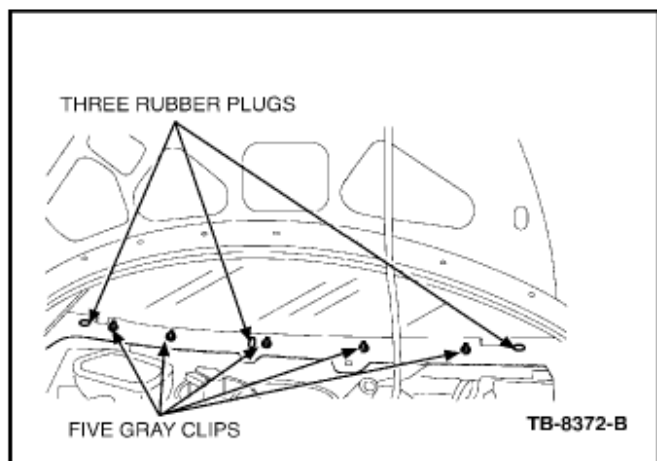

Figure 10
13. Check that the three (3) rubber plugs and five (5) gray plastic clips are fully seated. Add Clear Silicone Rubber around the three (3) rubber plugs and the five (5) gray plastic clips. (Figure 10)